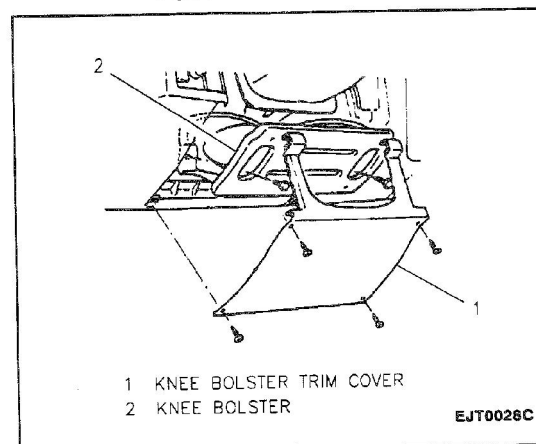

Figure 14—Knee Bolster Cover
17. Four screws and knee bolster trim panel (Figure 14).
19. Two bolts and knee bolster from instrument panel (Figure 14).